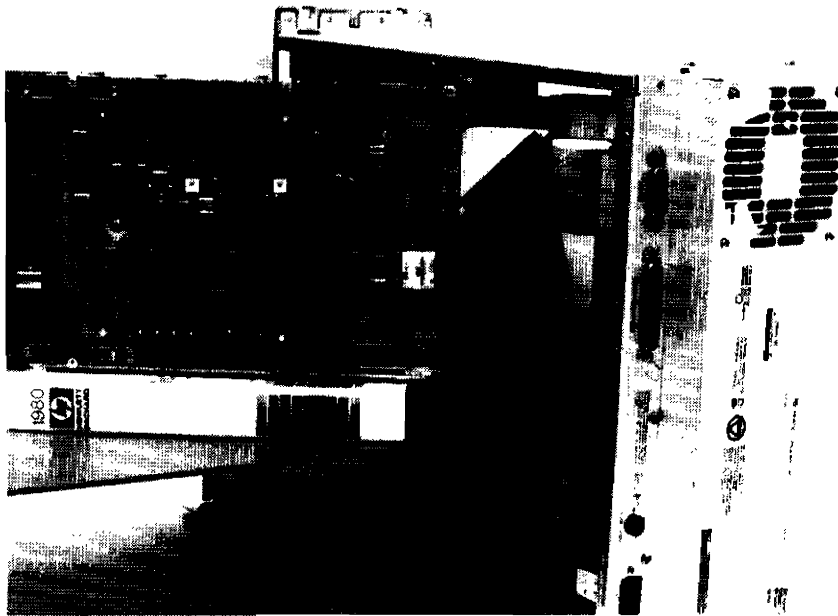
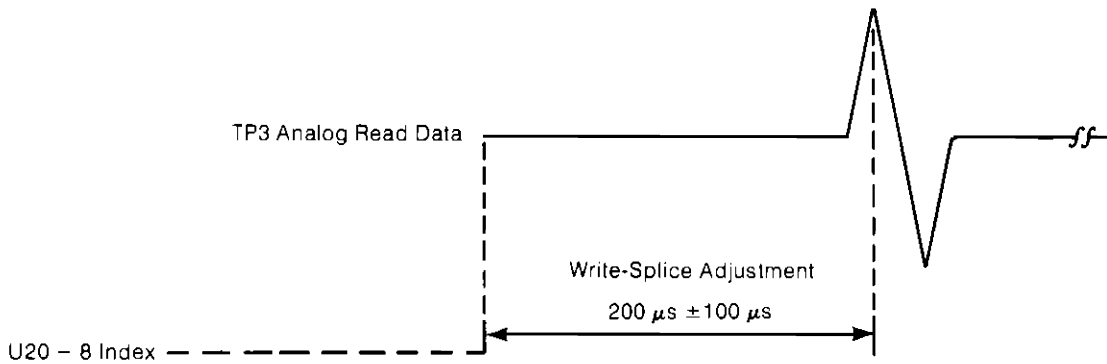

Figure 3-5. Alignment/Adjustment Test Setup
Figure 3-6. Index Pulse to Write-Splice Bit Timing
1. Disassemble the 9895 and set it up as shown in Figure 3-5.
5. Connect Channel 2 of scope to TP3 (inverted) on the drive board, Channel 1 to TP4 of the drive board and the External Trigger Input to U20-8. Set up the scope as follows: (Refer to Figure 3-5)
6. The time from Index pulse to write-splice bit should be 200 μ Seconds, \pm 100 μ Seconds (refer to Figure 3-6). To adjust the write Index-to-Burst time, loosen the single-sided sensor setscrew holding the (single-sided-sensor) phototransistor located on the bottom of the chassis toward the front of the unit (Figure 3-5). Using the adjustment tab protruding through the casting, move the phototransistor until the specification is met. Tighten the setscrew while observing the scope signal. Verify that the adjustment did not change.